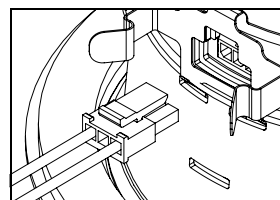

Figure 5
Step 5. Connect 3 position connector to fixture in orientation shown (Fig 5), and secure cover over connector.